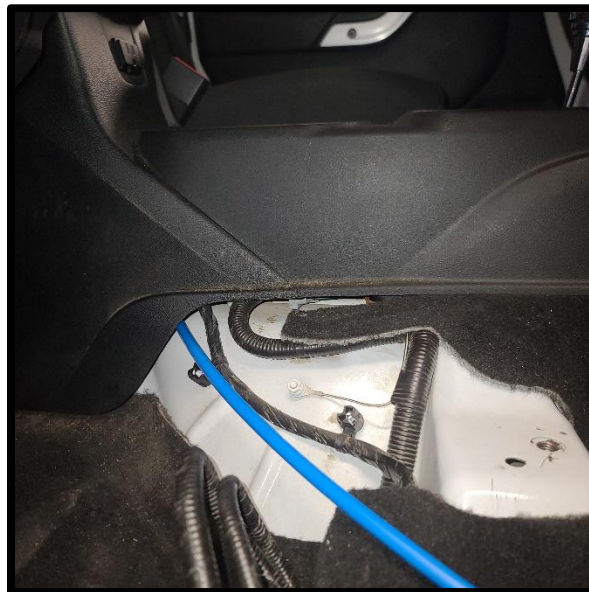

Figure 14
- 2-O) While the passenger seat is tilted up out of the way, run the 48-inch section of **black** tubing under the center console (**blue** tubing shown in photo is just for demonstration) as shown in **Figure 14**. Fish the black tubing into the corner shown and twist clockwise while pushing and it will go over and come out on the driver side. You may have to go around and reach under the driver seat and feel for it along the edge of the center console to pull it through. Leave a little bit on each side for now.